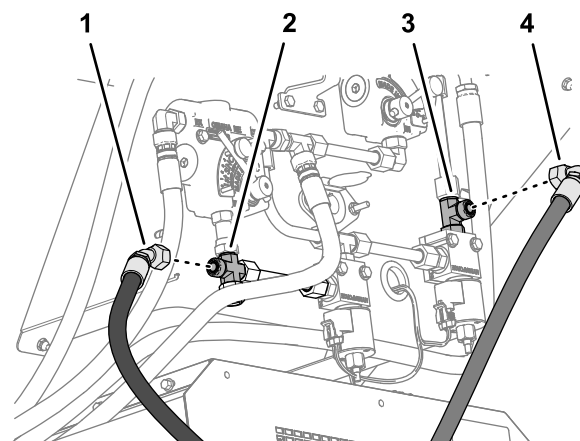
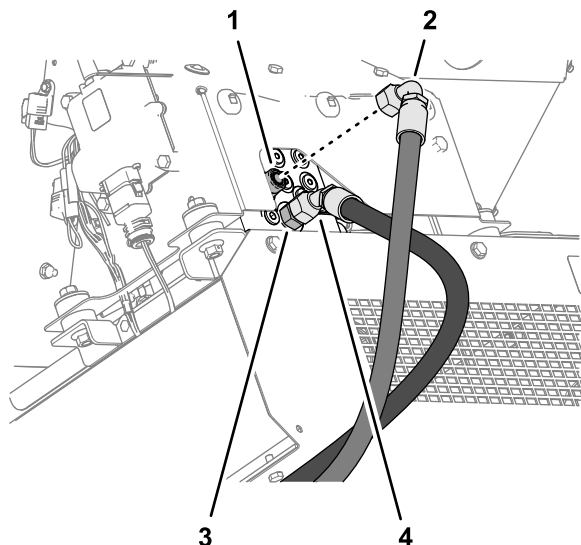

Figure 19
Figure 21
2. Loosely assemble the 90° fitting of the return hydraulic hose (the hose with the arrow decal affixed) onto the T-fitting (Figure 19).
3. Loosely assemble the 45° fitting of the pressure hydraulic hose onto the cross union fitting (Figure 19).
2. Loosely assemble the 45° fitting of the pressure hydraulic hose onto the union fitting in port-P (Figure 21).
3. Loosely assemble the 90° fitting of the return hydraulic hose (the hose with the arrow decal affixed) onto port-T of the hydraulic manifold (Figure 21).
- Tighten the 90° fitting of the return hydraulic hose and the 45° fitting of the pressure hydraulic hose; refer to Figure 19 or Figure 21.